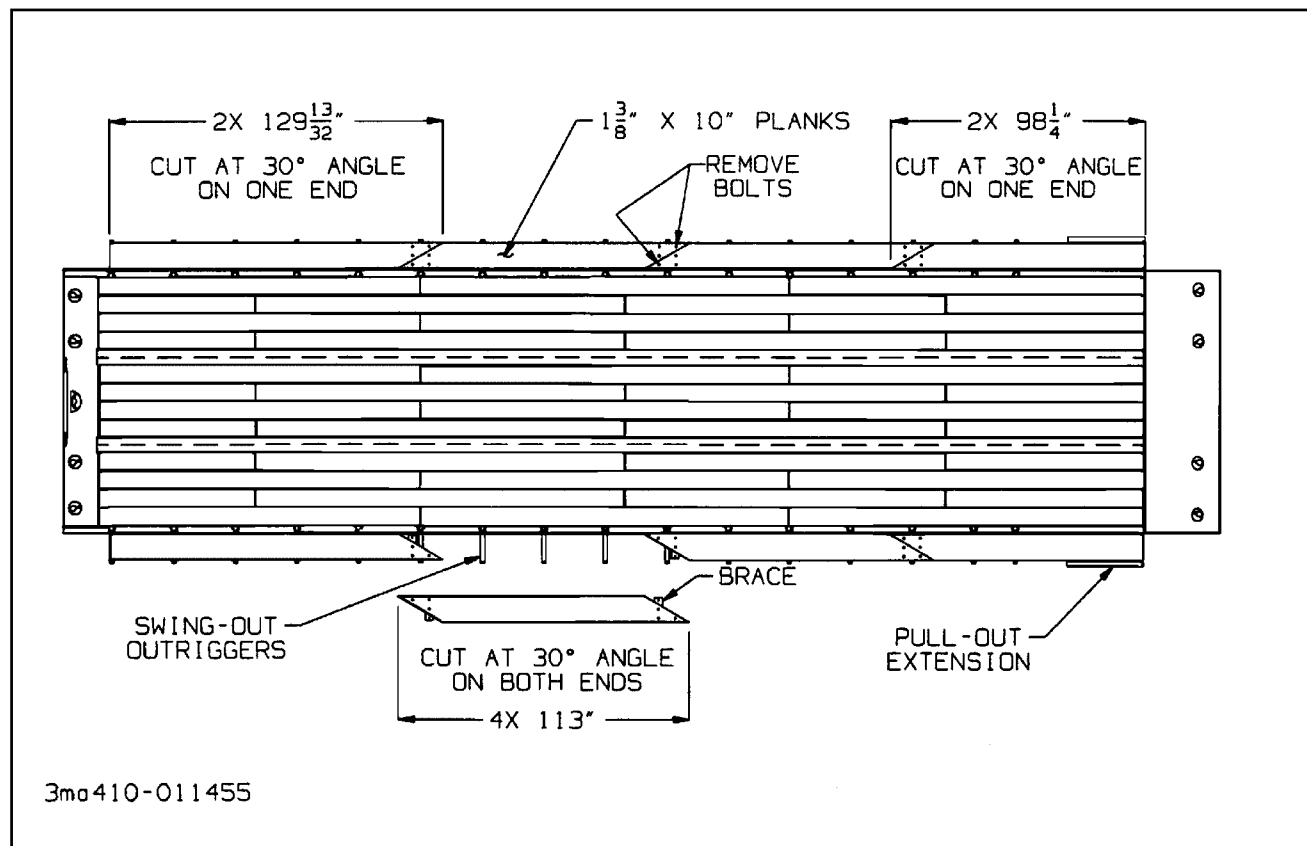

Figure 3-5 Outrigger Platform Extension
### 3-11 SWINGOUT OUTRIGGER PLATFORM EXTENSION SET-UP (OPTION)(See Figure 3-5)
- 3-11.6** Remove only two bolts for each joint as shown in **Figure 3-5**. Leave braces attached to boards for storage.